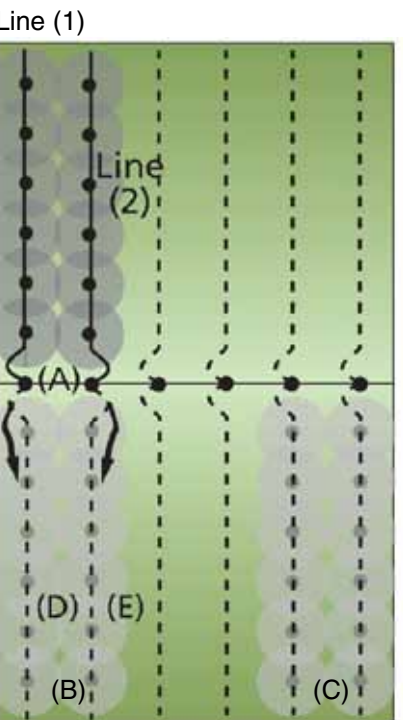

Figure 3. Shifting rotation within a typical paddock (12 pods) Line 1 moves to D Line 2 moves to E
Go to the submain (valve) end of the sprinkler line (1) (point (A) in Figure 3). Uncouple the line (1) from the submain, then connect the tow rope onto the K-Line™ then tow towards point (B) The K-Line™ will end up in position (D). Unhook, install a plug end then re-couple the K-Line™ back at the submain. Repeat this shifting process for line (2) uncouple at point (A) then tow the line toward point (B), Install the plug then re-couple at point (A).